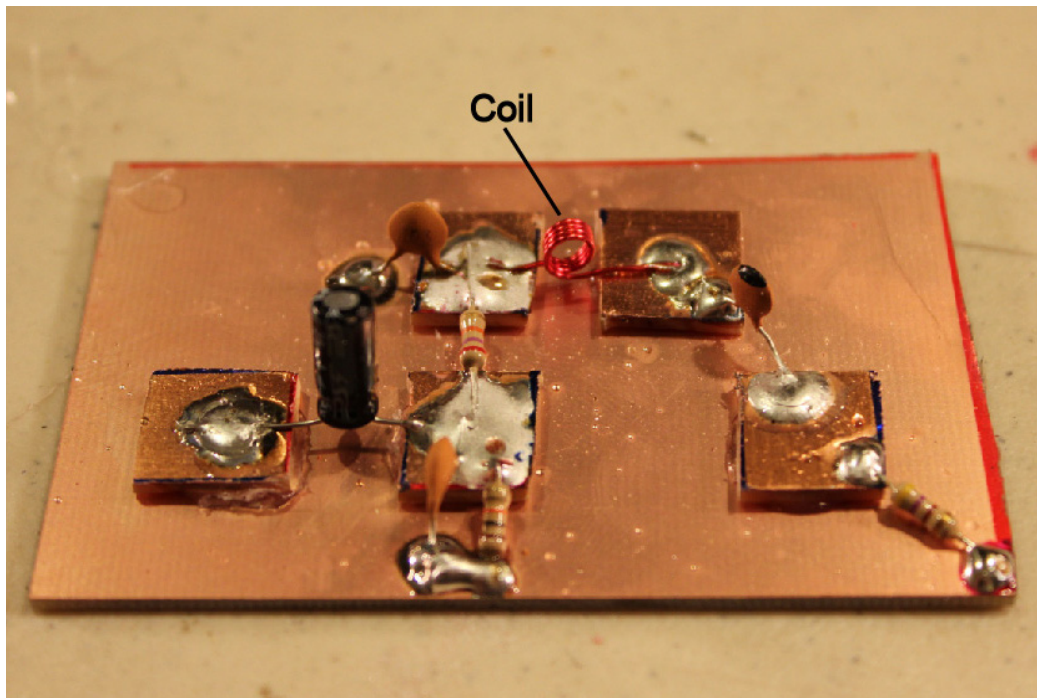

Figure 12
- Solder the coil between the upper two squares. (See figure 12)